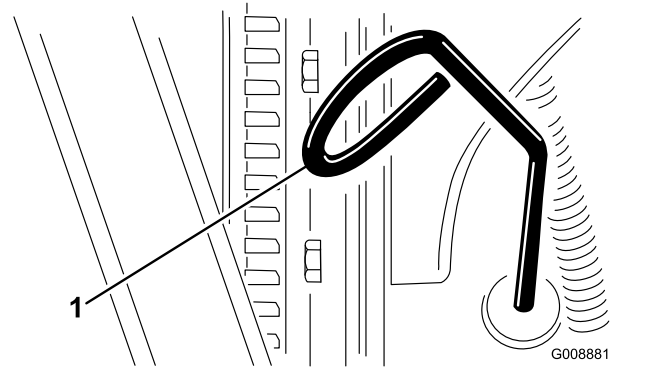

Figure 63
3. Remove the dipstick (Figure 63) and wipe it with a clean rag.